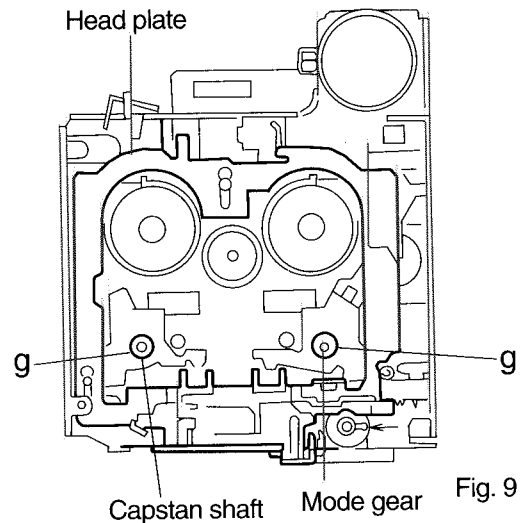

Fig. 9
■ **Removing the Flywheel Assembly (See Fig. 9)**